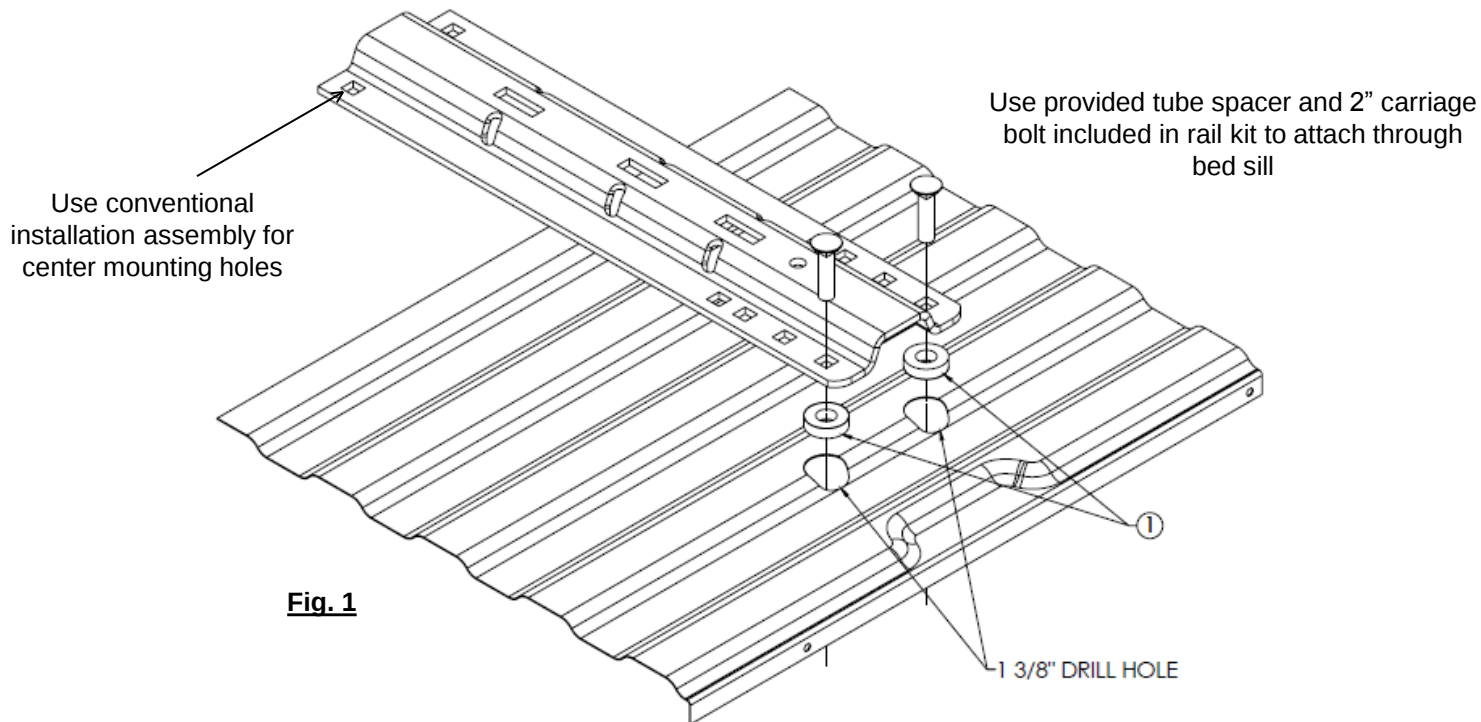

Fig. 1
1. Observe caution and note below and double check all areas prior to drilling. Refer to Fig. 1 for spacer placement in assembly.
3. Instead of using the rail kit's horseshoe spacer, drop service kit tube spacer (1) through widened hole in truck bed to prevent crushing bed sill when torquing 2" carriage bolt.
NOTE: ACTUAL BOLTING POSITIONS ON BED SILL MAY VARY DEPENDING ON PARTICULAR VEHICLE (SEE VEHICLE'S INSTALLATION GUIDE FOR VEHICLE SPECIFIC APPLICATIONS). CARRIAGE BOLT AND MOUNTING RAIL INCLUDED IN RAIL KIT AND ARE SHOWN IN FIG. 1 ONLY FOR INSTALLATION REFERENCE.